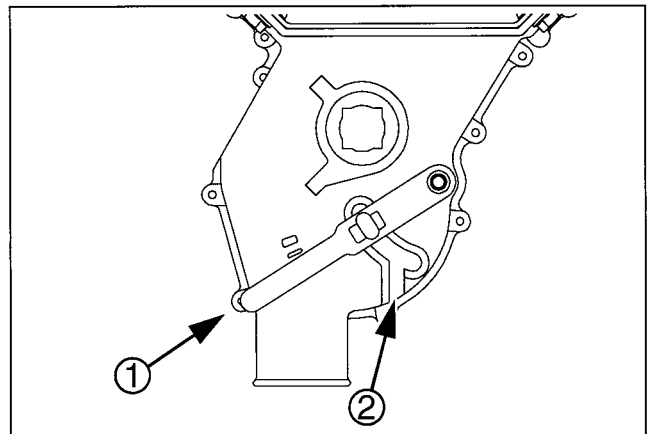

Figure 44
Refer to Figure 44, which depicts the seed cup door handle ① in a normal operating position.
1. Set the Seed Rate Handle to zero (0). This moves the seed cup sprockets out of the seed path.
3. At the seed cup for that row, pull the door handle ① out of the operating detent range, and swing it down to position ②.